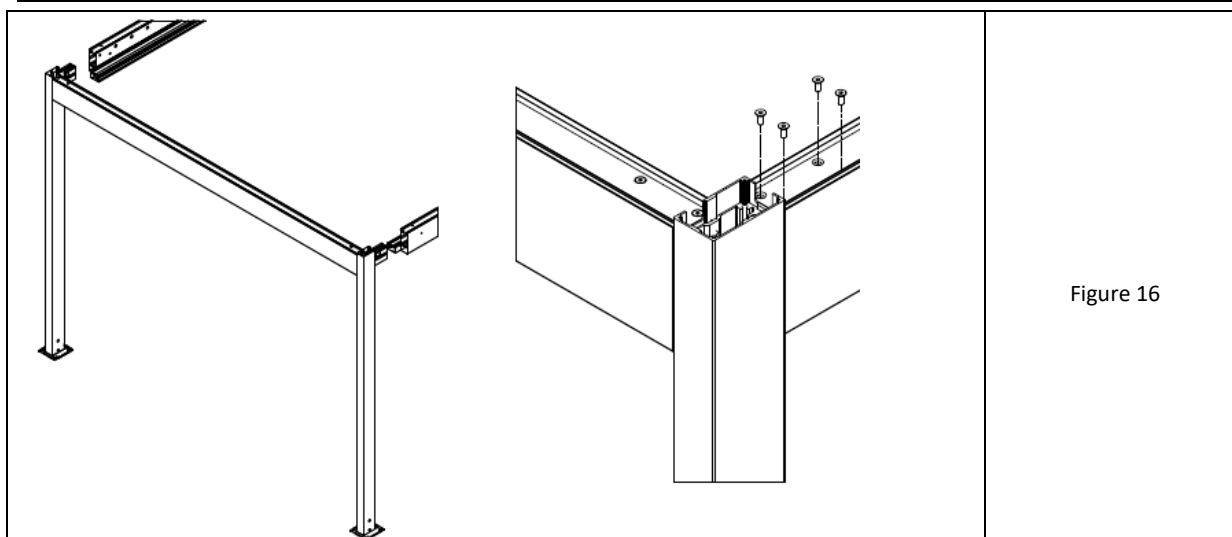

Figure 16
3. Screw the end of the lengthwise beam inserted into the bone of the cross-frame from the side of the upper chamber of the beam using 4 conical screws M8 x 20 with an Allen socket, according to fig. 16.